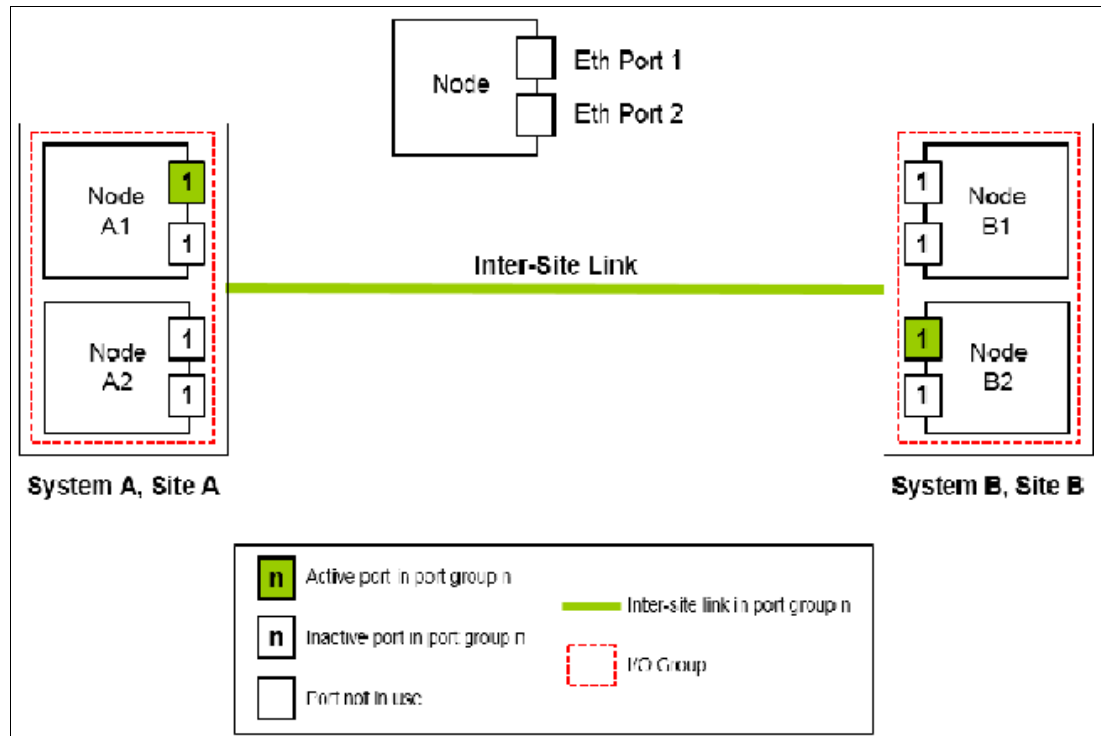

Figure 10-105 Two node systems with single inter-site link and Remote Copy port groups configured
- An example of an *unsupported* configuration for a single inter-site link is shown in Figure 10-105 (configuration 8).
As shown in Figure 10-105, this configuration is similar to Configuration 2, but differs because each node now has the same RC port group that is configured on more than one IP port.